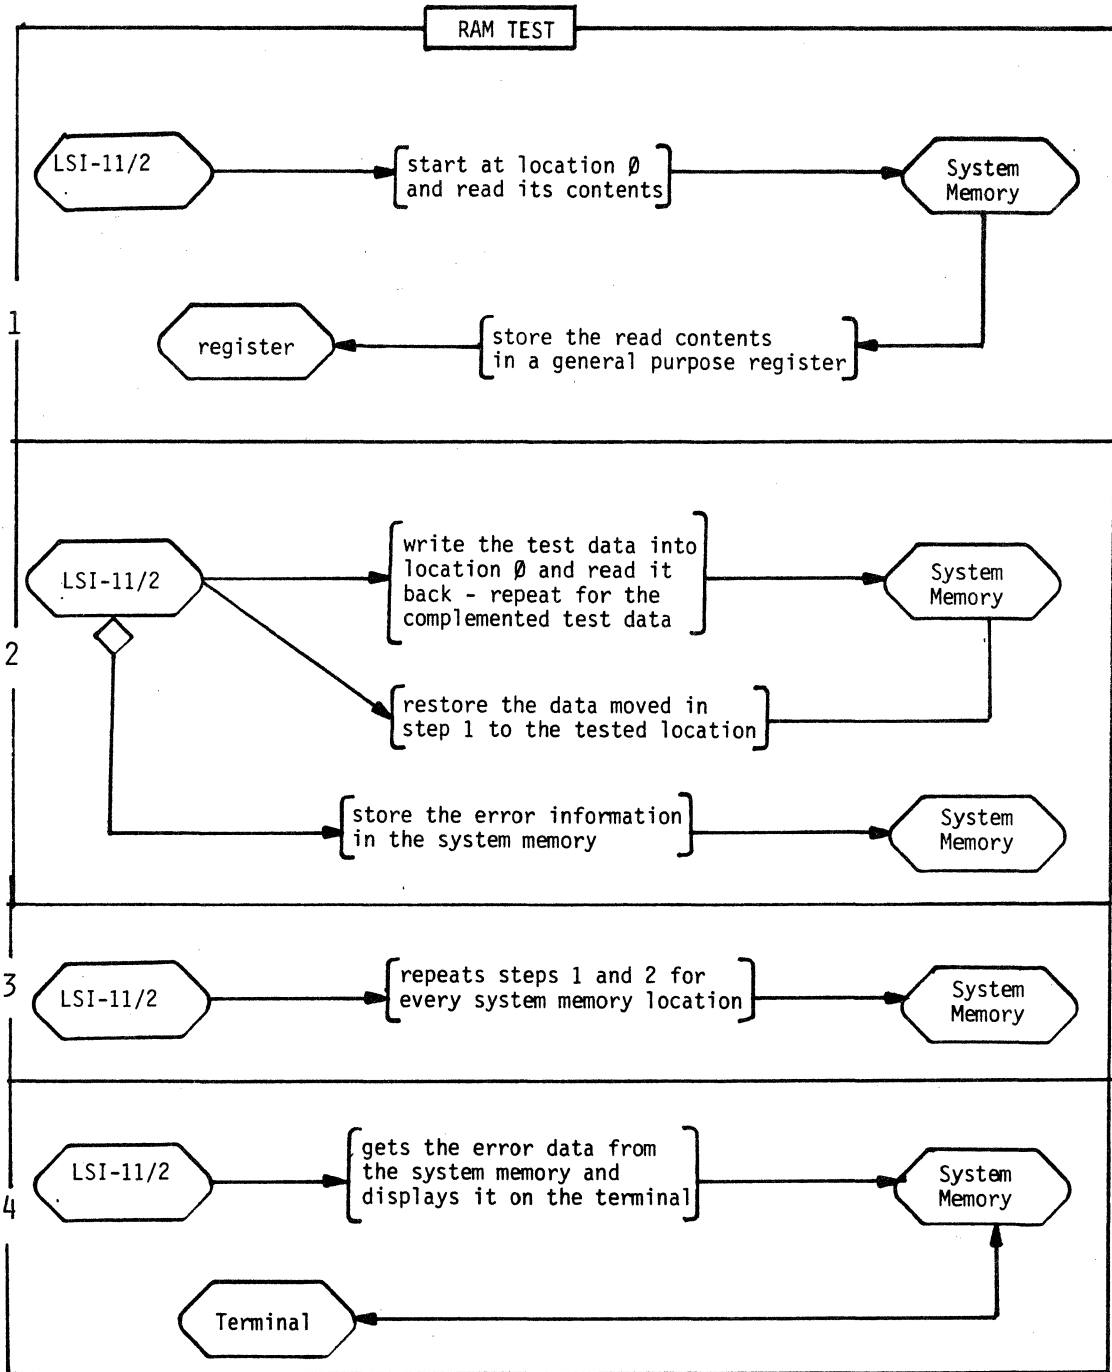

Fig. 4-4. RAM test.
1. READ MEMORY (Fig. 4-4). The RAM test starts at location 0, reads its contents, and stores the contents in a general purpose register.